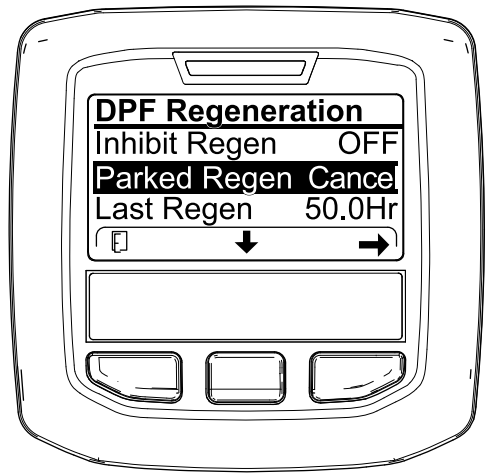
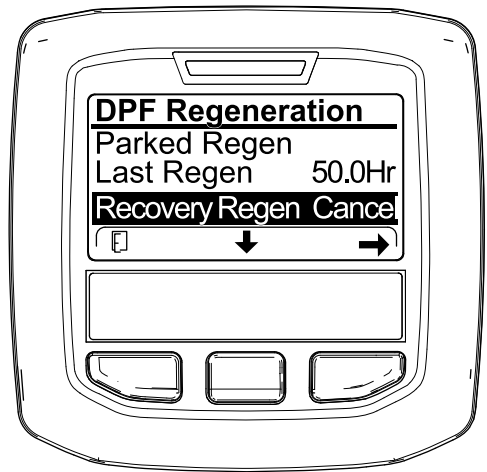

Figure 70
Figure 71
1. Access the DPF Regeneration menu (Figure 70).
2. Press the center button to scroll down to the PARKED REGEN CANCEL (Figure 70) or the RECOVERY REGEN CANCEL option (Figure 71).
3. Press the right button to select the Regen Cancel entry (Figure 70 or Figure 71).